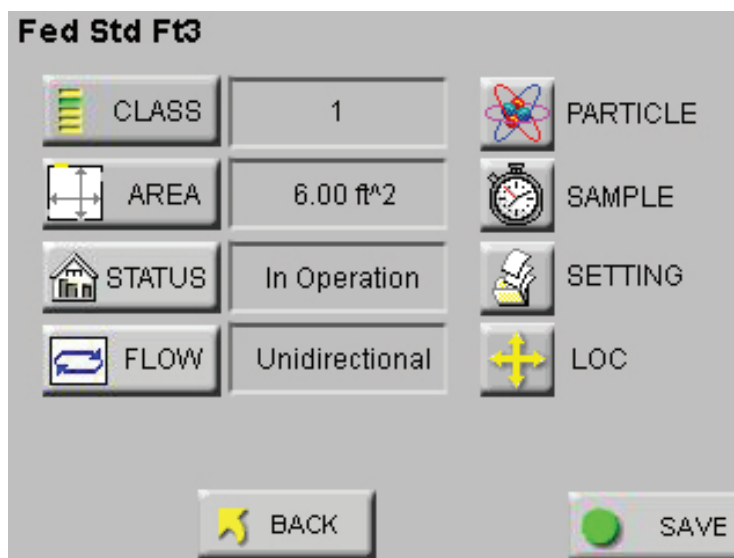

Figure 4-68 Report Setup Screen
- Press the SETUP button; the Report Setup screen displays as shown in Figure 4-68.